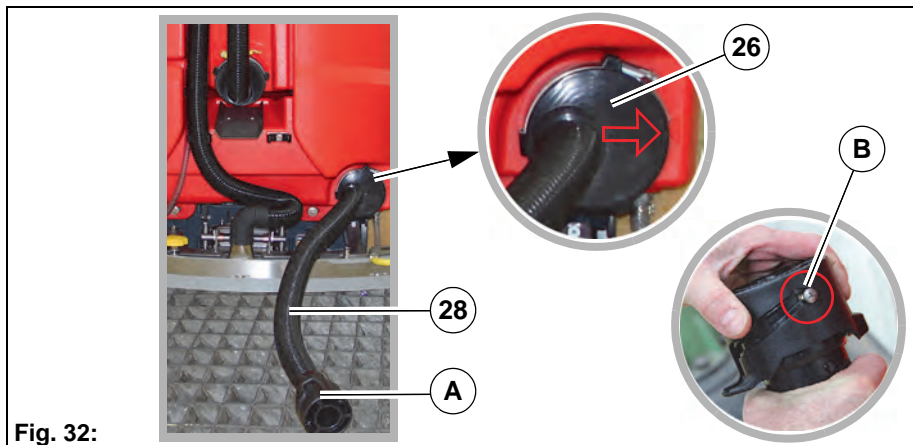

Fig. 32:
4. Remove the drain hose from the holder, open the drain valve **Fig. 32-A** and drain the waste water tank via the drain.
5. Ensure that the drain hose closure is fully closed after draining **Fig. 32-B!**